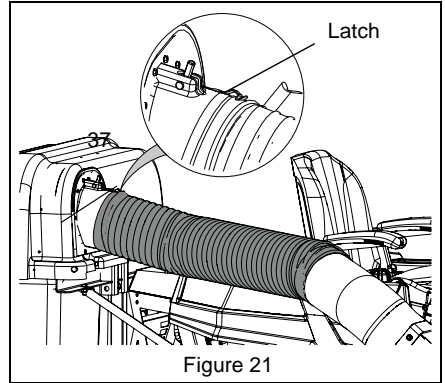

Figure 21
See Figure 21.
1. Release thumb latch retaining hose to hood assembly and remove hose from hood assembly and blower adapter. See Figure 21.